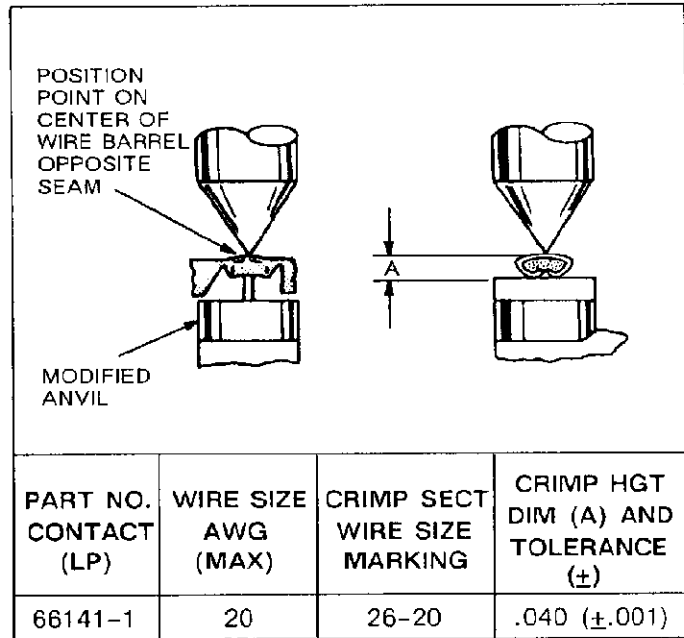

Fig. II-2
This inspection requires the use of a micrometer with a modified anvil as shown in Figure II-2. We recommend the modified micrometer (Crimp Height Comparator RS-1019-5L) which can be purchased from:
1. Refer to the chart in Figure II-2, and use the maximum size wire for the contact listed in the chart.
3. Using a crimp height comparator, measure wire barrel crimp height as shown in Figure II-2. If the crimp height conforms to that shown in the chart, the tool is considered dimensionally correct. If not, return the tool to AMP for evaluation and repair (see Paragraph II-2, REPAIR).
1. Select a contact, wire (maximum size), and the designated crimp section for the contact you are using (see Figure II-2).